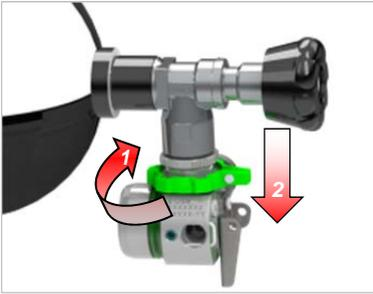

Fig. 24 Removing a cylinder with alphaCLICK 2
- (3) Close cylinder valve(s) and release air from pneumatic system of the SCBA with lung governed demand valve.
- (4) For compressed air cylinders with *alphaCLICK 2* turn the handwheel on the coupling side (arrow 1) in a clockwise direction first (→ Fig. 24) and then, when closed up to the stop, push downwards in the direction of the pressure reducer (arrow 2).